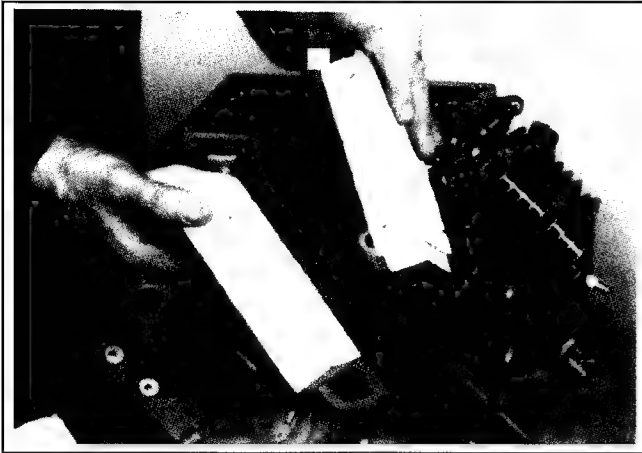

Figure 11-2. Removing Valve Blocking Tool.
1. Turn crankcase half upside down again and remove cover plate and valve blocking tools. See Figure 11-2.